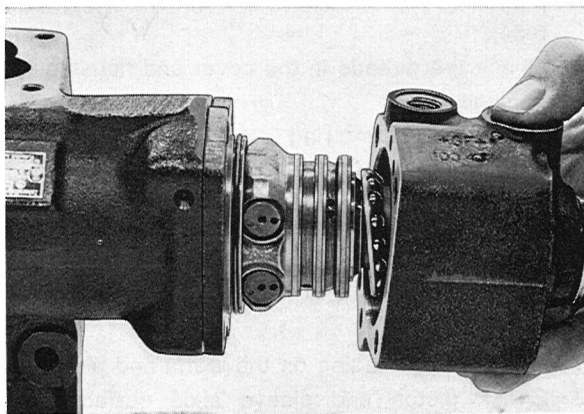

Fig. 6-77. Removing valve housing
4. Remove the rubber cover (51) and the attaching bolts (50 and 52). Pull off the valve housing (56), see Fig. 6-77. Remove the circlip (53) and press out the seal (54).